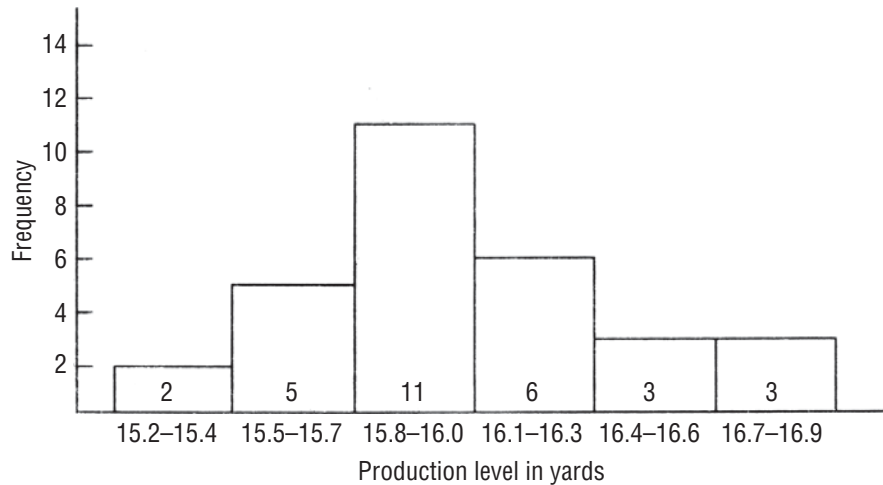
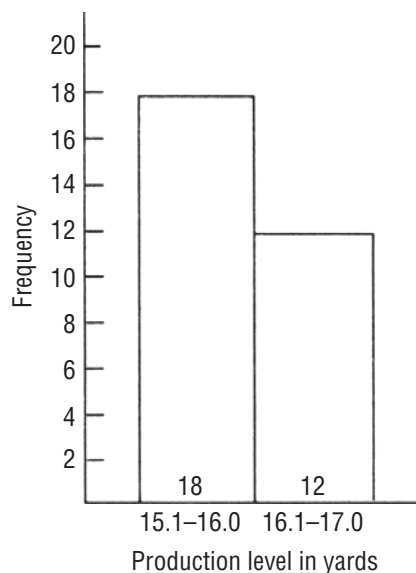

FIGURE 2-1 FREQUENCY DISTRIBUTION OF PRODUCTION LEVELS IN A SAMPLE OF 30 CARPET LOOMS USING 0.3-YARD CLASS INTERVALS
FIGURE 2-2 FREQUENCY DISTRIBUTION OF PRODUCTION LEVELS IN A SAMPLE OF 30 CARPET LOOMS USING 1-YARD CLASS INTERVALS
- Illustrate the data in a chart.** (See Figure 2-1.)
These three steps enable us to arrange the data in both tabular and graphic form. In this case, our information is displayed in Table 2-14 and in Figure 2-1. These two frequency distributions omit some
Notice in Figure 2-1 that the frequencies in the classes of 0.3-yard widths follow a regular progression: The number of data points begins with 2 for the first class, builds to 5, reaches 11 in the third class, falls to 6, and tumbles to 3 in the fifth and sixth classes. We will find that the larger the width of the class intervals, the smoother
this progression will be. However, if the classes are too wide, we lose so much information that the chart is almost meaningless. For example, if we collapse Figure 2-1 into only two categories, we obscure the pattern. This is evident in Figure 2-2.